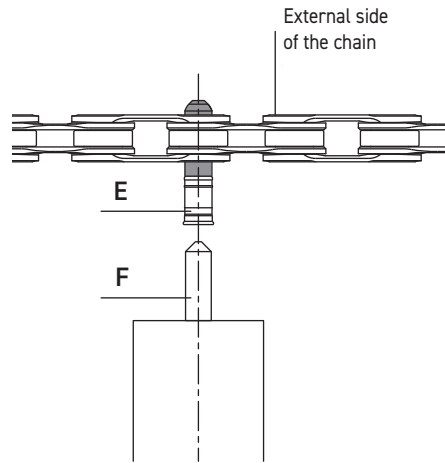

Fig.13
- Check that the tapered tip of the pusher (F) (Fig. 13) is in line with the centre of the bushing **ULTRA-LINK 5-CN-RE500 (11s) / 5-CN-SR600 (12s)** (E) (Fig. 13).
In order to minimize the possibility of damaging the chain irreparably, **DO NOT TIGHTEN** the tool beyond the beat. Let the bushing **ULTRA-LINK 5-CN-RE500 (11s) / 5-CN-SR600 (12s)** (E) protrude 0.1 mm from the inner side of the chain (Fig. 13).